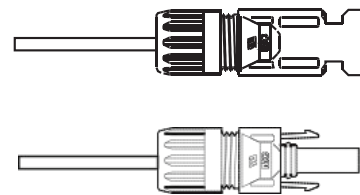

Figure 5.15 Connector with Cap nut Screwed on
- Insert metal connector into top of connector, and tighten nut with torque 3-4 Nm (see figure 5.15).